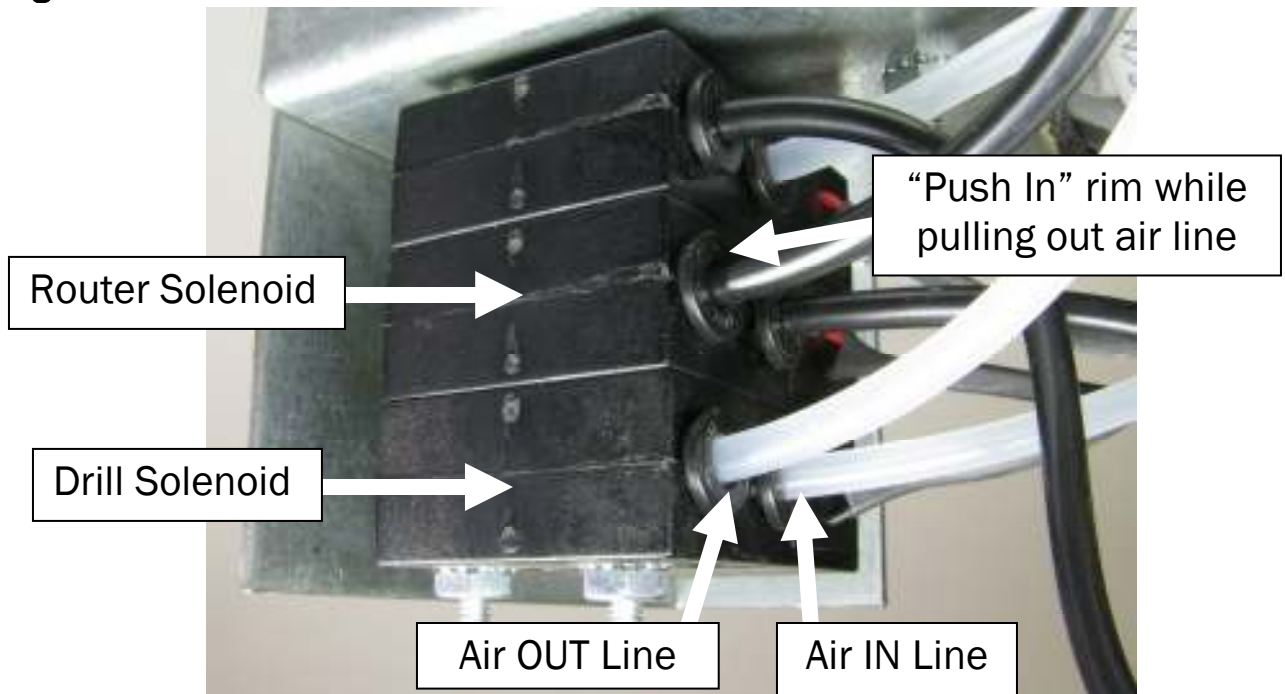
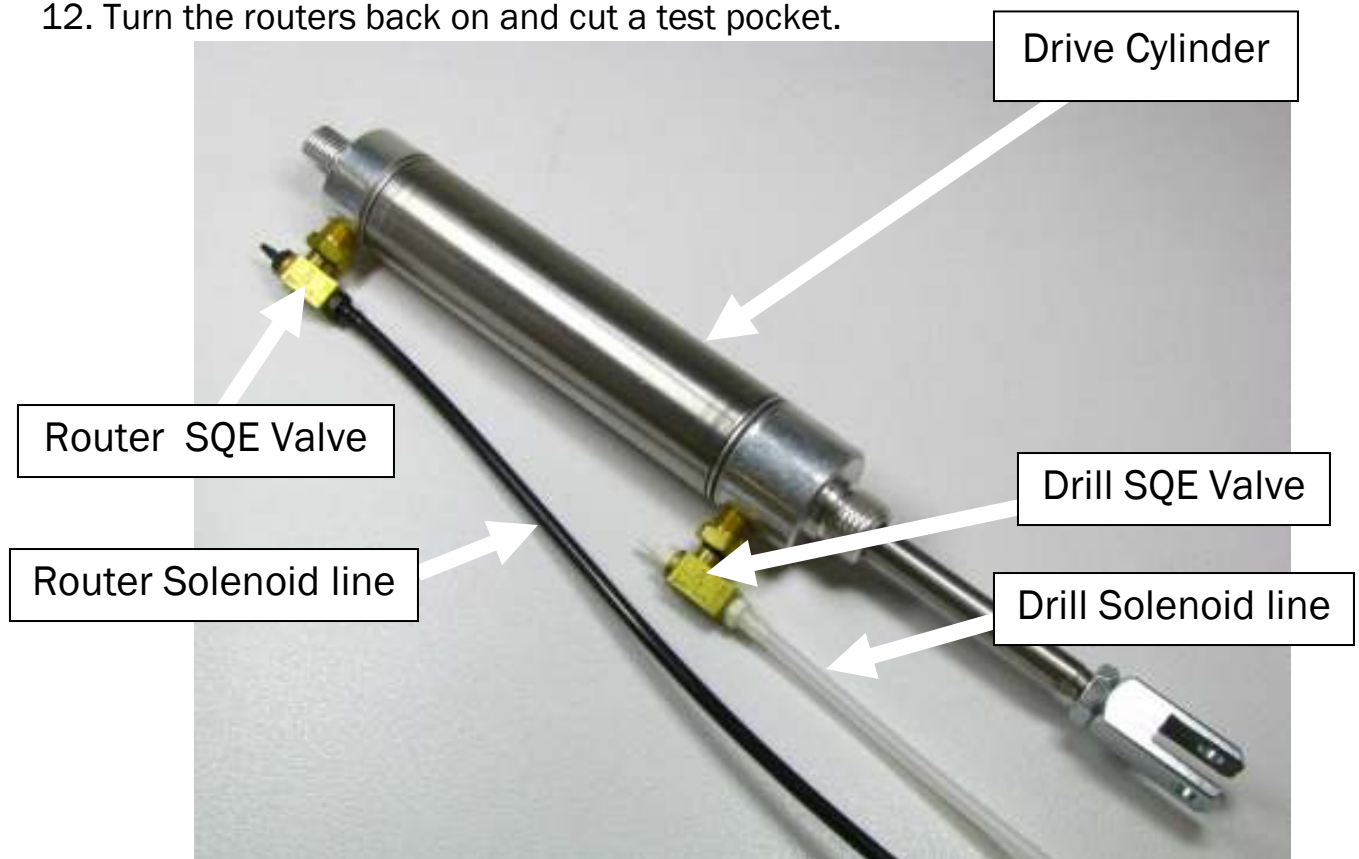

Figure 25
Figure 26
1. Disconnect the “Air Out” lines from the Router and Drill Solenoids. See fig. 25. The other end of the lines should remain attached to the Drive Cylinder SQE valves. See fig. 26.
6. Reconnect the “Air Out” lines to the Router and Drill Solenoids. **See fig. 25.**
7. Disconnect the “Air Out” lines at the Drive Cylinder SQE valves. **See fig. 26.**
11. Reconnect the air lines to the Drive Cylinder as shown in **figure 26.**